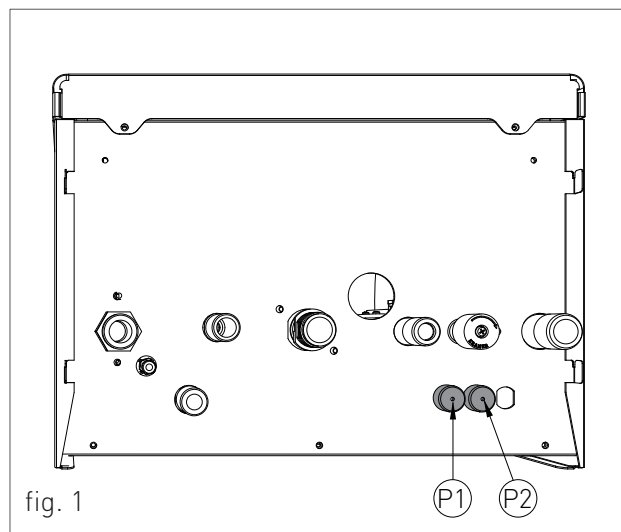

fig. 1
The cables should be inserted inside the boiler using the cable glands 'P1' and 'P2' placed under the board (see fig. 1). Make a hole on the cable gland, smaller than the cable diameter, to make sure that the air cannot pass through.
Grasp the left and right control panel support brackets (see fig. 1) and pull them outwards, at the same time rotating the panel downwards;
Take the 8 m. length DHW sensor cable (see C-fig.1), located onto the boiler bottom plate, and insert the sensor inside the water tank sensor holder.
- › The discharge duct must be perpendicular with the opposite internal wall of the chimney or of the fumes exhaust duct (fig. 1).